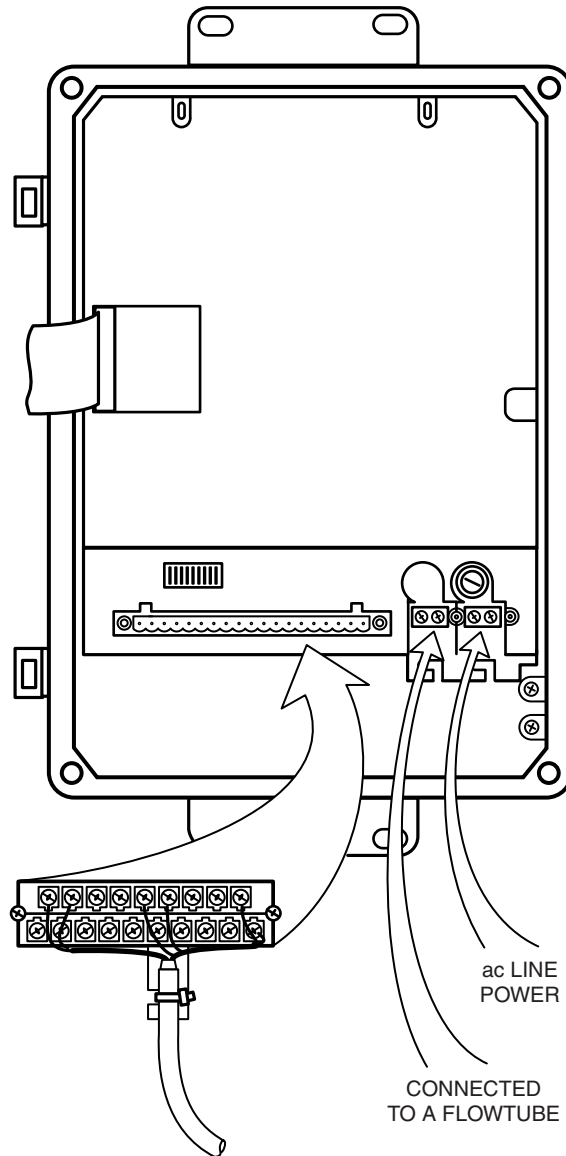

Figure 2. Typical System Setup
4. Insert the simulator cable terminal block in place of the terminal block removed in the previous step. See Figure 2.